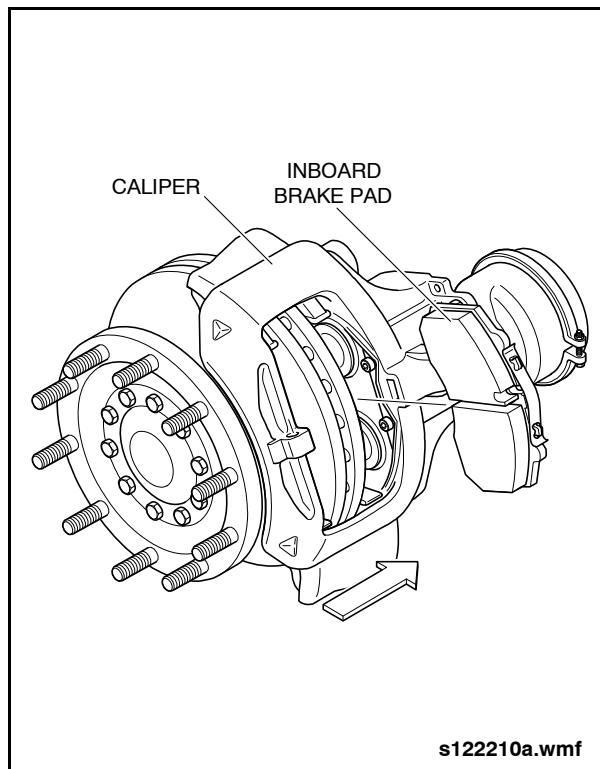

Fig. 1-54: Brake Pad Installation
1. Push the brake caliper inward against the stop and insert the inboard brake pad. See See "Fig. 1-54: Brake Pad Installation" on page 62.